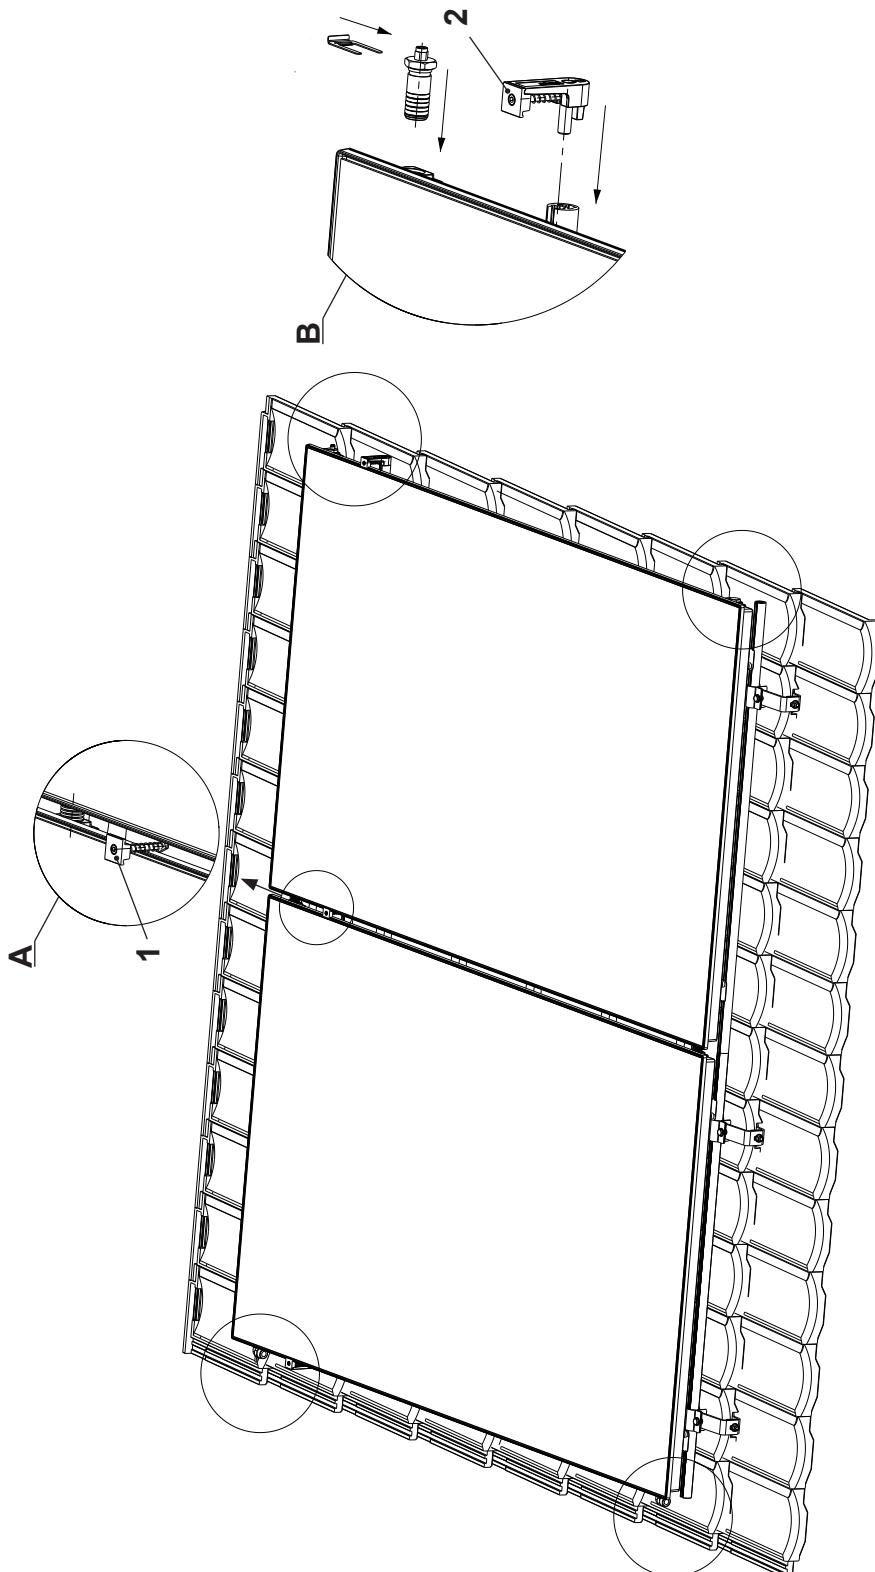

Figure 18
18. Install the clamping element in the middle (1, detail A, Figure 18).